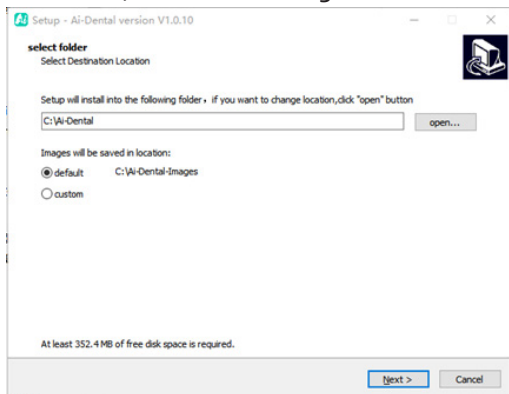

Figure 5
3. After the installation program is started, click the "Browse" button and select the installation path. After the path is selected, click the "Next" button, as shown in Figure 5: